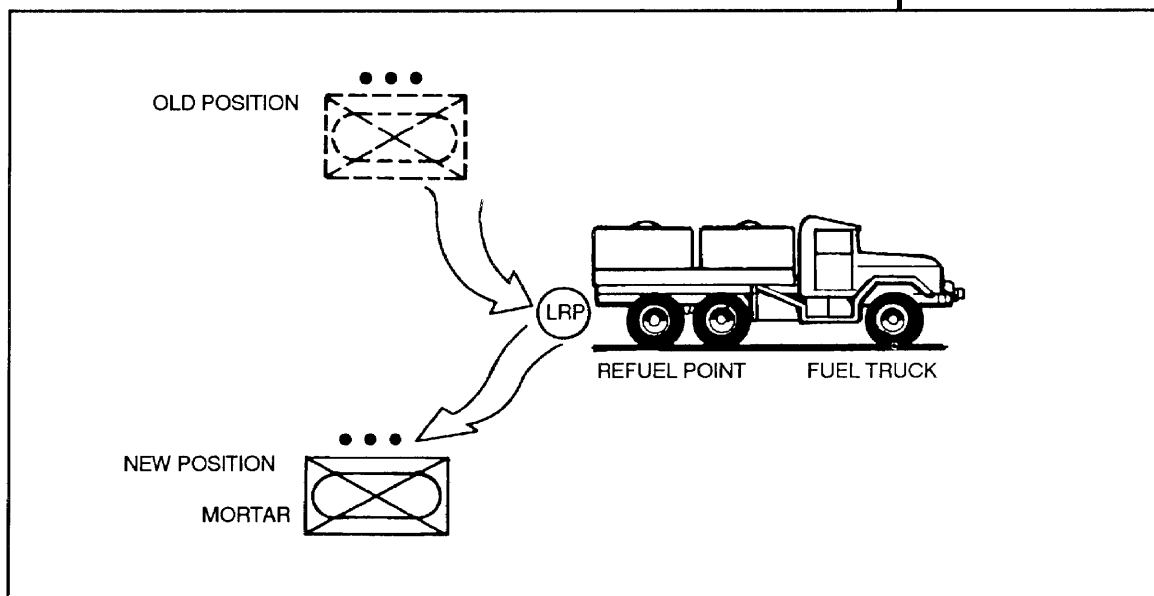

Figure 9-5. En route refueling at LRP.
d. When displacing, the platoon should be able to top off their vehicles from the manned LRP while en route to a new firing position (Figure 9-5).